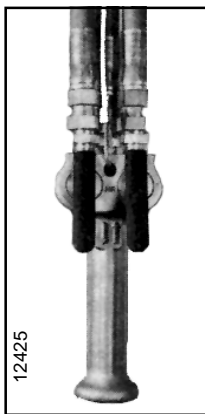

Figure 3-1. Pendant Throttle Control Handle
3-1. GENERAL. Operation of **YALE** KAL2 Air Hoists is controlled by a pendant throttle control. The Pendant Throttle Control has a convenient lever type control valve handle (Figure 3-1) suspended from the control manifold.
- a. Depress throttle valve lever marked ↑ to raise load. See Figure 3-1.